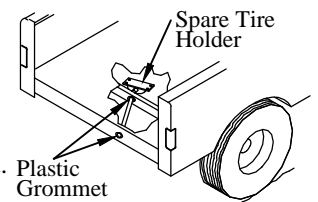

Figure 7: Spare tire access modification.
1. **Remove** the plastic spare tire access grommet from the back of the truck box (Figure 7).
2. **Remove** the plastic grommet in the rear cross member of the truck frame (Figure 7).